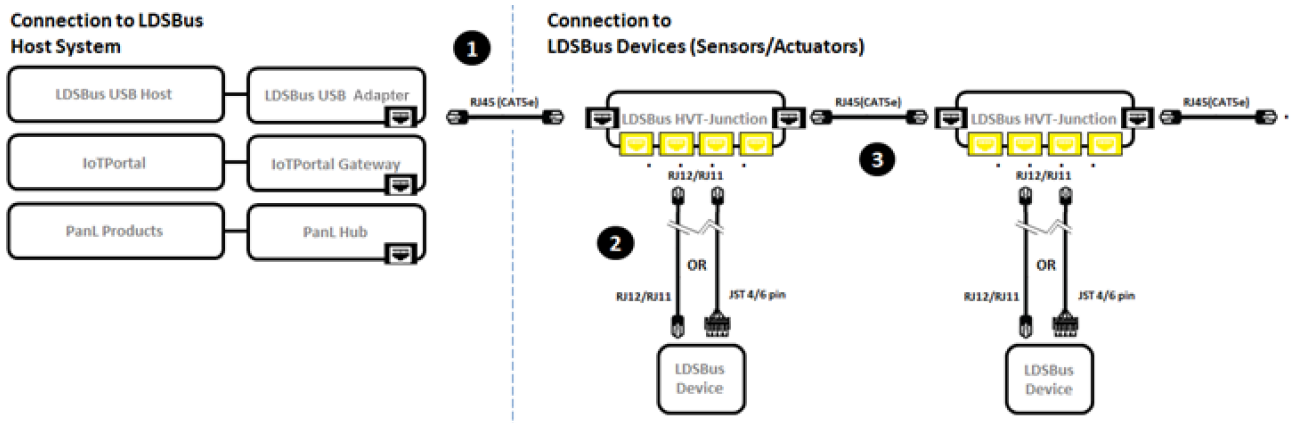

Figure 2 - LDSBus Dissolved Oxygen Sensor Adapter to LDSBus - Connection Diagram
Figure 2 illustrates the connection of the LDSBus DO Sensor Adapter (LDSBus Device) to the LDSBus. Please visit <https://brtsys.com/resources> to view the full device application, setup, and installation guides.
2. Connect the configured LDSBus DO Sensor to the LDSBus HVT-Junction as shown in Figure 2.
3. If there is more than one LDSBus HVT-Junction, chain them together as shown in Figure 2.